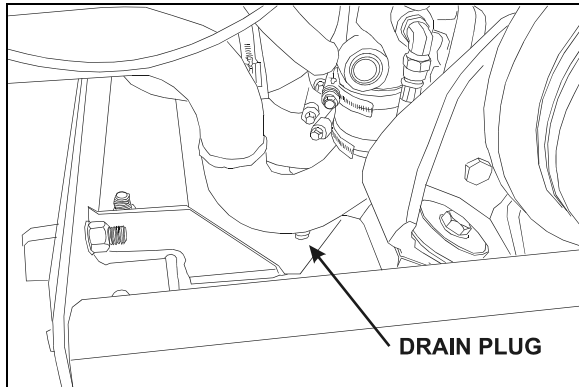

FIGURE 9: WATER PUMP DRAIN PLUG
3. Open the water pump housing inlet line drain plug (Fig. 9).